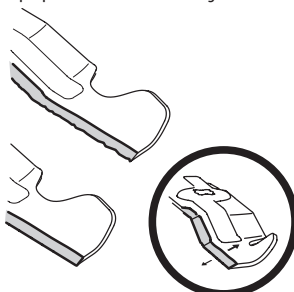

Figure 38
4. To properly sharpen the cutting blades, remove equal amounts of metal from both ends of the blades along the cutting edges, parallel to the trailing edge, at a 25° to 30° angle. Always grind each cutting blade edge equally to maintain proper blade balance. See Figure 38.